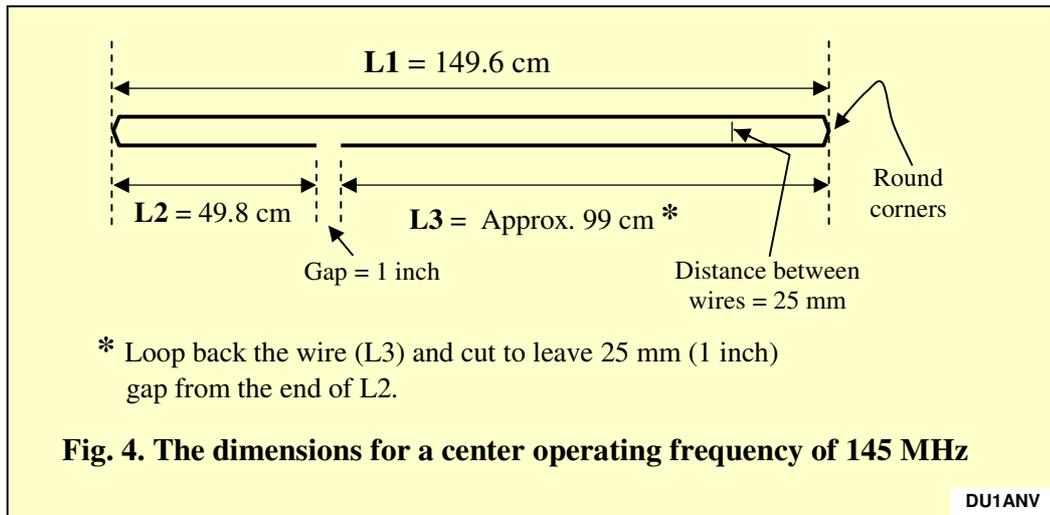

Fig. 4. The dimensions for a center operating frequency of 145 MHz
3. Layout the wire in a flat surface or on the floor and follow the illustration in Fig. 4 to make the loop of the Slim Jim and with the dimensions as shown (A 1/2 inch diameter drill bit was used as a jig to make the rounded corners when looping the wire):
3. **Checking the bandwidth and resonant frequency:** Before installing the assembled antenna into its PVC tube enclosure, you must recheck its VSWR curve to ensure that the antenna resonance and bandwidth is close to the design frequency. Use an antenna analyzer for this purpose. In case an antenna analyzer is not available, you can use your normal SWR meter and radio transceiver to check the bandwidth and VSWR curve. The graph shown in Fig.8 is the VSWR curve of my Slim JIM project in open air with the dimensions shown in Fig. 4.